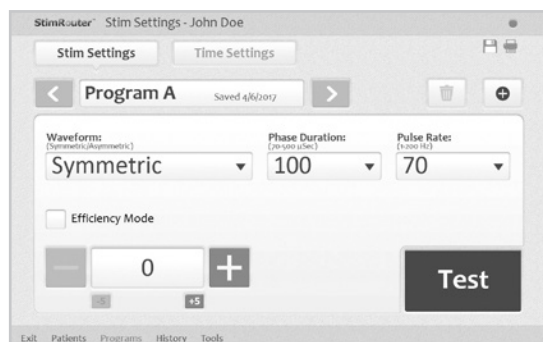

Figure 10-6: Stim Settings window
2. From the Patients List, select a patient and press “Open”. The Stim Settings window will open. See Figure 10-6.